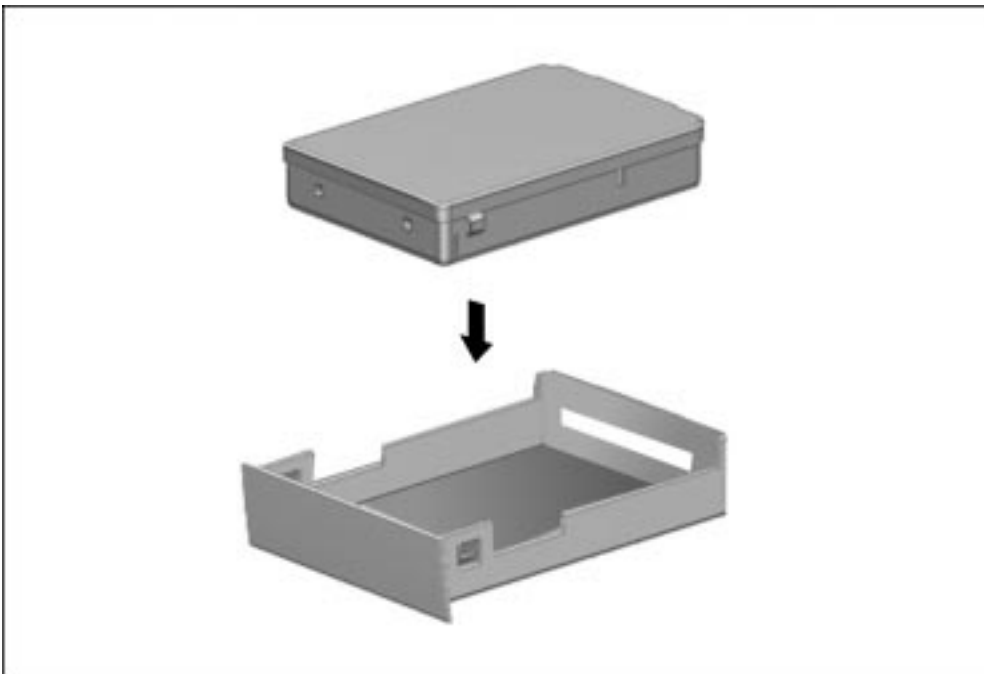

Figure 5-17. Inserting a Hard Drive into the Hard Drive Tray
5. Insert the metal hard drive into the plastic hard drive tray with the connectors protruding through the opening in the rear of the tray (Figure 5-17).